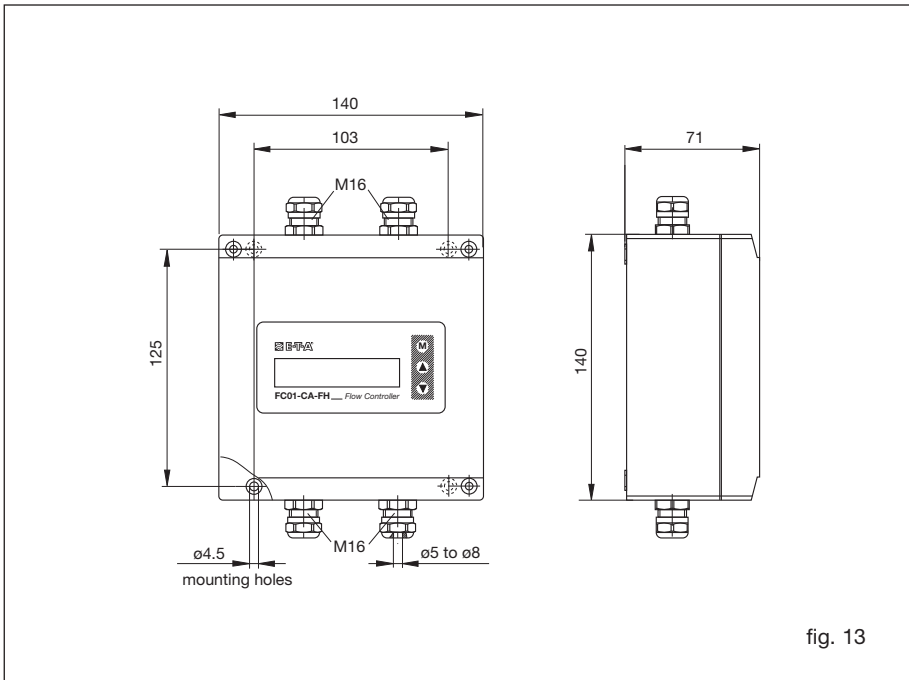

fig. 13
2.2.1.2 Surface mounted version FC01-CA-FH-U1... (fig. 13)
- Install the housing in place using the 4 self-tapping screws M4 (see fig. 13).